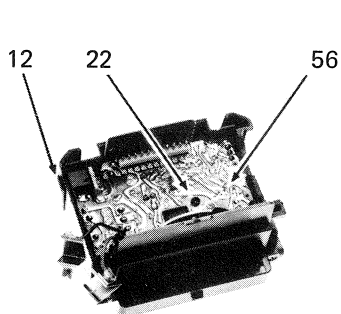

Figure 2-4. Removal of PC Boards
- D. Remove one Screw (22) from PC board A (56). Remove AC socket cap (12). The PC boards can now be lifted out of case. (Figure 2-4)